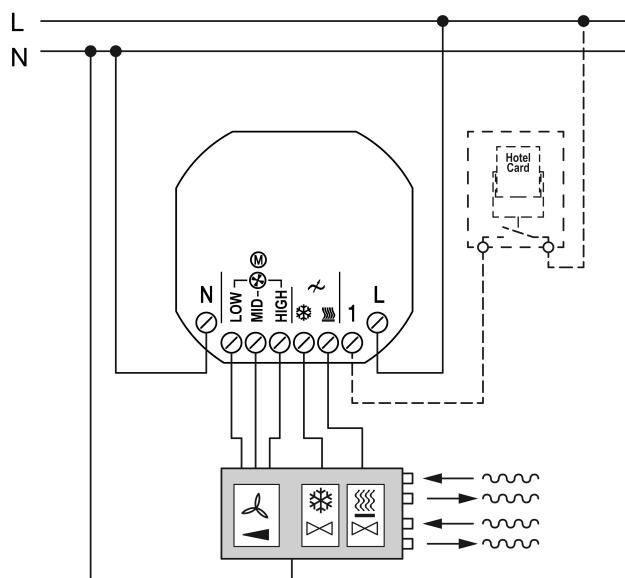

Figure 7: Connection of a 4-pipe fan coil unit with hotel card switch
- Connect the fan coil unit for 4-pipe operation to a 4-pipe (Figure 7) power supply unit variant.
- Install the power supply unit (8) in the right orientation in an appliance box. Note marking **TOP**.
- Fit the frame (9) onto the insert.
- Fit the cover (10) onto the insert